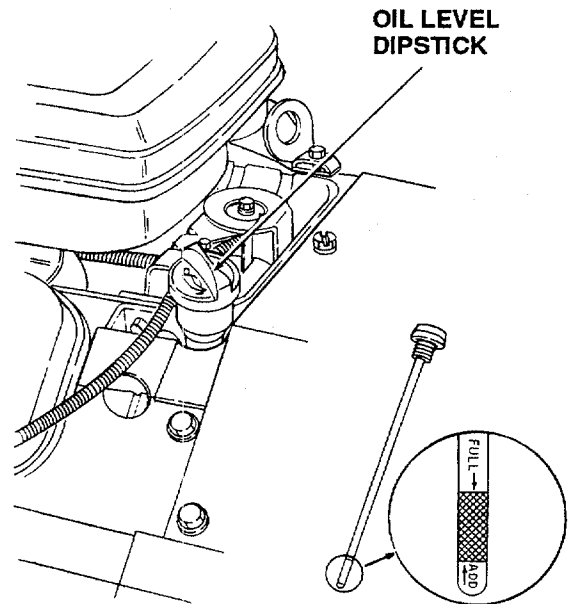

Figure 20
Before each use, the oil level of the engine crankcase should be checked to see that it is filled to the correct level. Close monitoring of the oil level during the first 10 hours of operation of the engine is especially important. Before checking the oil level, clean the area around the oil level dipstick to prevent debris from entering the crankcase. Always keep the oil level between the "FULL" and the "LOW" marks on the dipstick (See Figure 20). When checking the oil level, the engine must be cold, the dipstick must be withdrawn and wiped clean, then screwed all the way into the tube before being withdrawn for a true reading.
3. Remove the oil filler cap from the left valve cover and SLOWLY pour in oil. Fill the crankcase until the oil level reaches the "FULL" mark on the dipstick (Refer to Figure 20).
3. Remove the oil filler cap from the valve cover and **SLOWLY** pour in oil. The oil capacity is approximately 3-1/2 pints. Fill the crankcase until the oil level reaches the "FULL" mark on the dipstick (Refer to Figure 20).